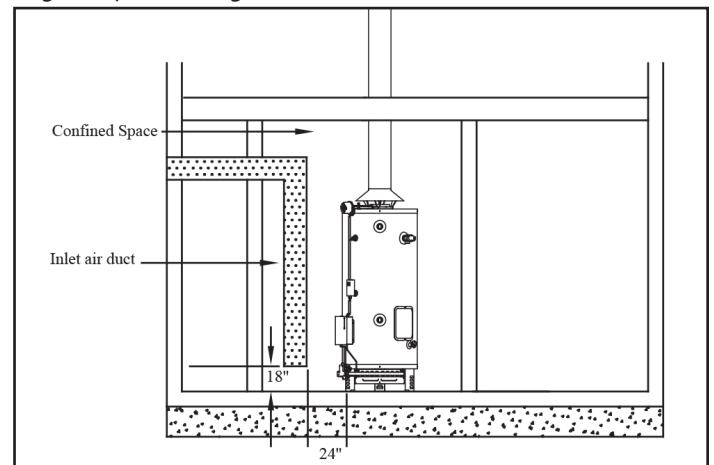

Figure 8 - Confined Space - All Air from Outdoors through Duct
An air supply shall be provided with one opening that communicates directly with the outdoors by means of a duct. This duct shall be sized according to CAN/CSA B149.1 and terminate within one (1) foot above and within two (2) feet horizontally from the burner level of the appliance having the largest input. See Figure 8.